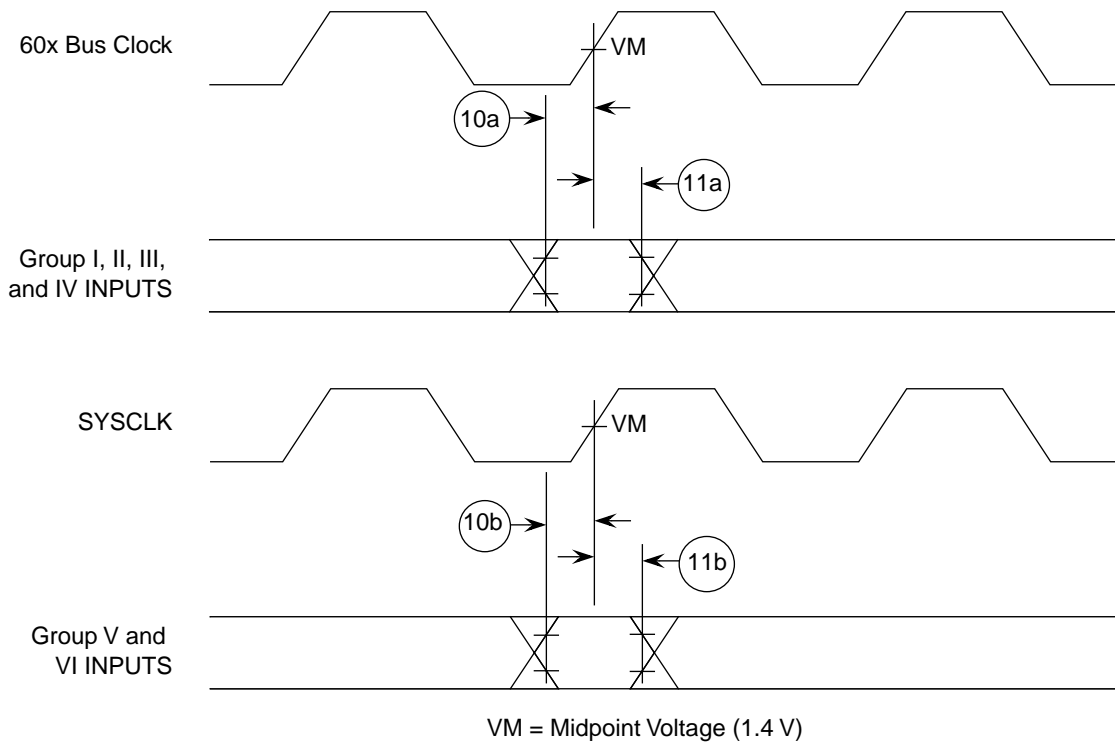
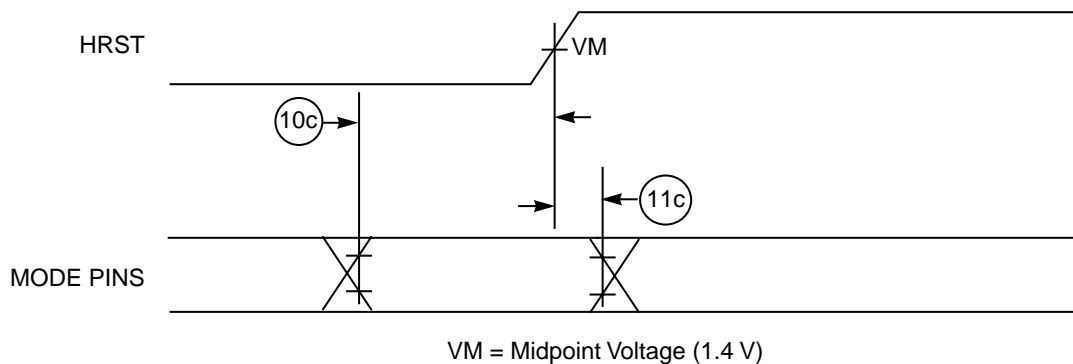

Figure 3. Input Timing Diagram
Figure 4. Mode Select Input Timing Diagram
Table 7 provides the input AC timing specifications for the 106 as defined in Figure 3 and Figure 4. These specifications are for operation between 16.67 and 33.33 MHz PCI bus clock (SYSCLK) frequencies. Assume Vdd = AVdd = 3.3 ± 5% V DC, GND = 0 V DC, and 0 ≤ T_j ≤ 105 °C.
- ¹ Input specifications are measured from the TTL level (0.8 or 2.0 V) of the signal in question to the 1.4 V of the rising edge of SYSCLK. Both input and output timings are measured at the pin (see Figure 3).
- ¹⁰ The setup and hold time is with respect to the rising edge of $\overline{\text{HRST}}$ (see Figure 4). Mode select inputs include the $\overline{\text{RCS0}}$, $\overline{\text{FOE}}$, and $\overline{\text{DBG0}}$ configuration inputs.
Figure 3 provides the input timing diagram for the 106.
Figure 4 provides the mode select input timing diagram for the 106.